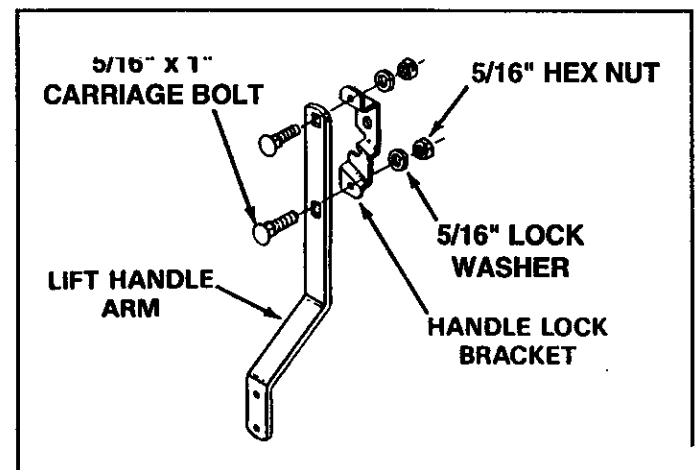

FIGURE 8
- Assemble handle lock bracket to lift handle arm using two 5/16" x 1" carriage bolts, 5/16" lock washers and 5/16" hex nuts. See figure 8.